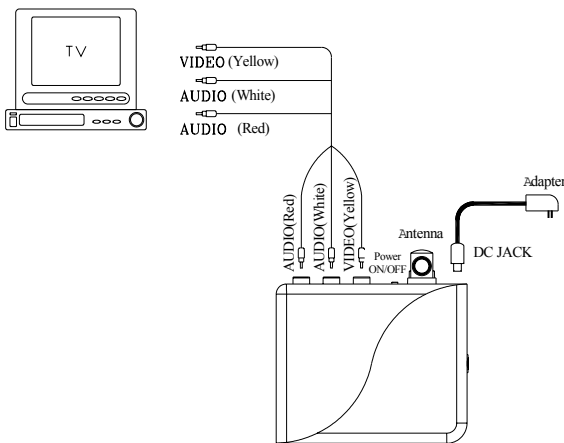

FIGURE 22
2. Plug the yellow (video), white (audio) and red (audio) RCA connectors into the corresponding RCA connectors on the Receiver. (FIGURE 22)